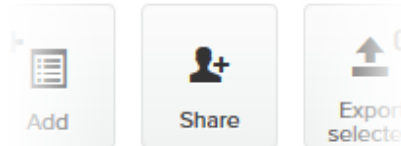

Figure 62. Plug-ins web page (Share button)
4. Click the **Share** button in the upper left-hand corner of the **Plug-ins** web page (Figure 62 \(page 116\)).